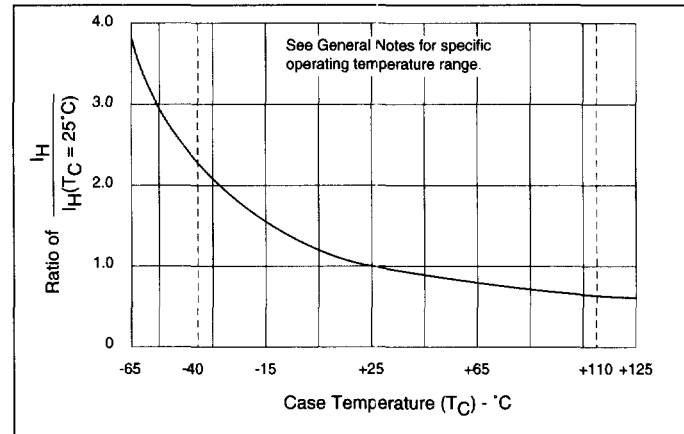

Figure 5.13 Normalized DC Holding Current vs Case Temperature
- (5) See Figure 5.13 for I_H vs T_C .